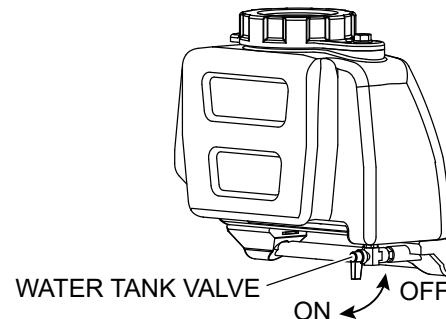

Figure 10. Water Tank ON-OFF Valve
2. Check the water tank ON and OFF valve Figure 10).